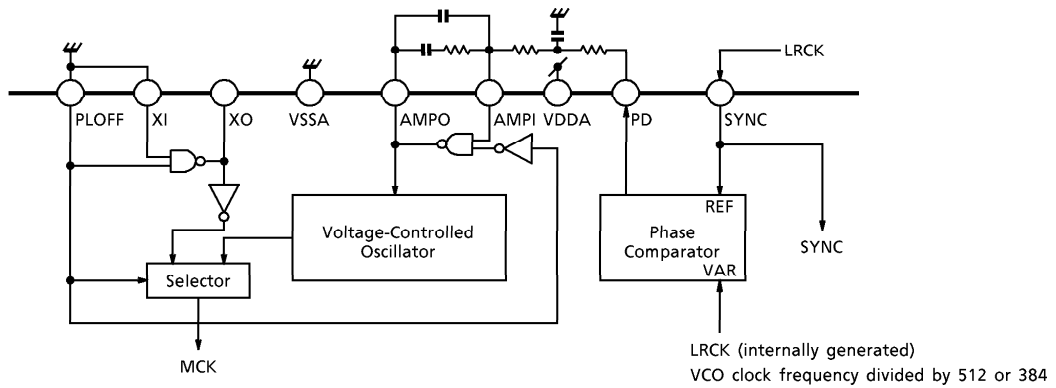

Fig.3 Example of Configuration of a Basic PLL Circuit
(2) Voltage-controlled oscillator (VCO)
The clocks required for internal operations are generated by an built-in VCO. The signal input from the SYNC pin is used as a reference. Configure the phase-locked loop as shown in Figure 3. A phase-difference (PD) signal is output from the PD terminal.